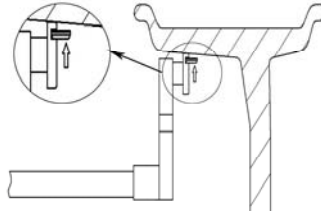

Figure10-4
10.4.5 Press [T], enter the tracking sticking function. Clipping the inside sticking weights with glue side up on the measuring ruler head, rotating the wheel, when inside counterweight position indicator light all on, and show "OK", pull out the measuring scale until the inside tracking sticking indicator light all on, spin the measuring scale and stick the weights on the rim. Figure 10-4
10.4.6 Clipping the outside sticking weights with glue side up on the measuring ruler head, rotating the wheel, when outside counterweight position indicator light all on, and show "OK", pull out the measuring until the outside tracking sticking indicator light all on, spin the measuring scale and stick the weights on the rim. Figure 10-4
counterweight position indicator light all on, and show "OK", pull out the measuring scale until the outside tracking sticking indicator light all on, spin the measuring scale and stick the weights on the rim. Figure 10-4
10.6.5 Press [T], enter the tracking sticking function. Clipping the sticking weights with glue side up on the measuring ruler head, rotating the wheel, when counterweight position indicator light all on, and show "OK", pull out the measuring scale until the tracking sticking indicator light all on, spin the measuring scale and stick the weights on the rim. Figure 10-4